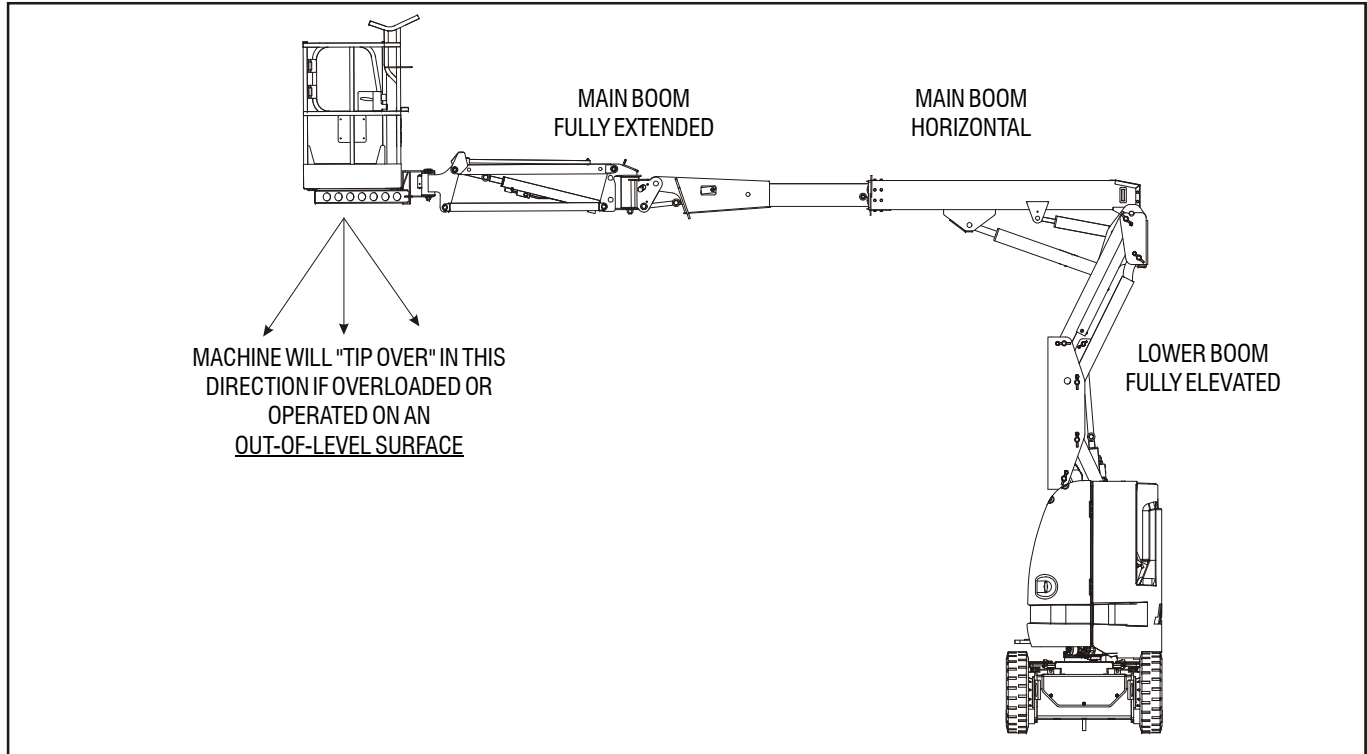
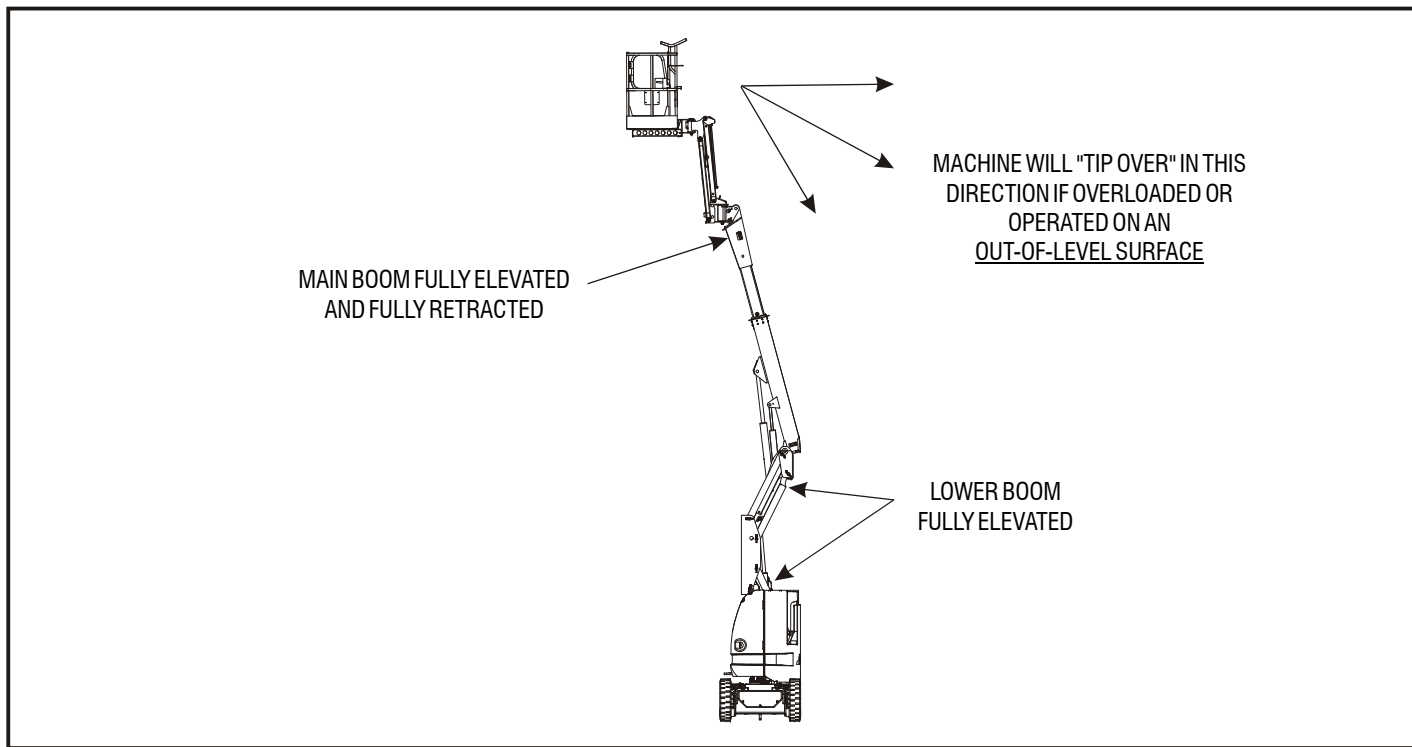
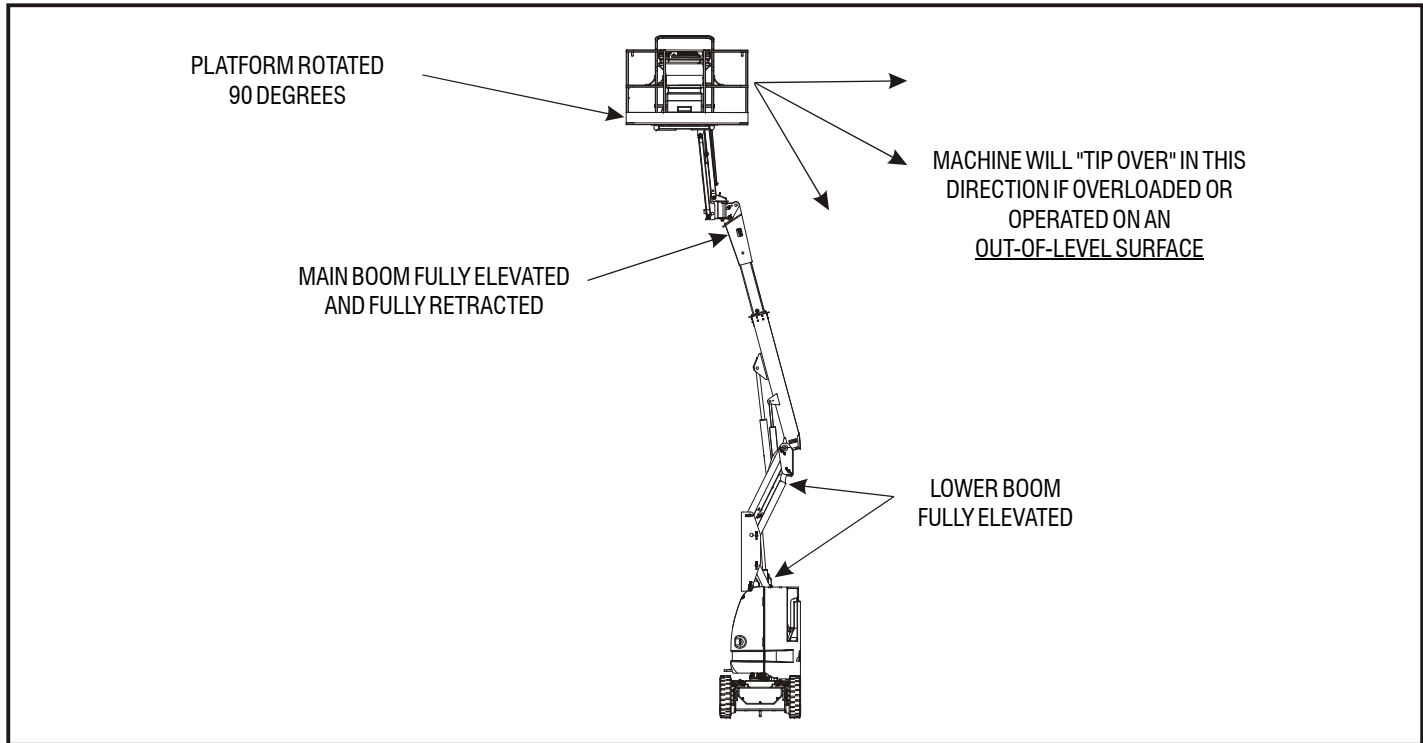

Figure 4-1. Position of Least Forward Stability
Figure 4-2. Position of Least Backward Stability - E300AJ
Figure 4-3. Position of Least Backward Stability - E300AJP
Machine stability is based on two (2) conditions which are called FORWARD and BACKWARD stability. The machine's position of least FORWARD stability is shown in Figure 4-1., and its position of least BACKWARD stability is shown in Figure 4-2. and Figure 4-3.